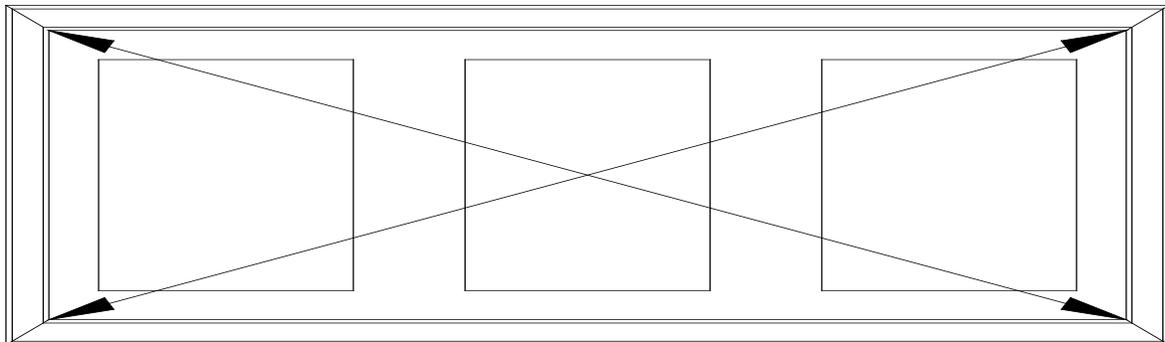

FIGURE 1.
- b) A diagonal measurement must be within 1/8" of being equal before fastening top of frame. (Figure 1). A frame out of square can result in door drag or improper closing.